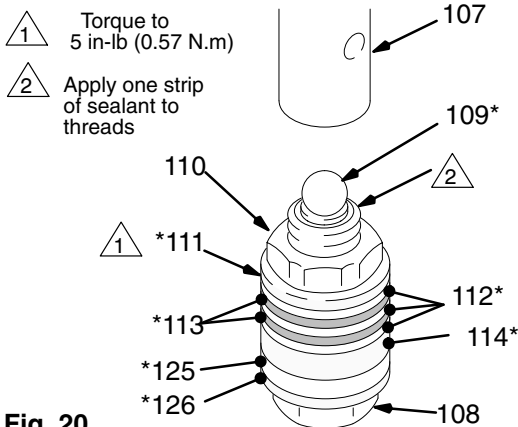

Fig. 20 03178
1. Check the outside of the piston rod (107) and the inside of the cylinder (115) for wear. Replace worn parts to ensure a good seal with the new packings.
2. Stack these parts onto the piston valve (108) one at a time: the backup washer (126*) and u-cup (125*), the female gland (114*), alternately three plastic (112*) with two leather packings (113*), and the male gland (111*). See Fig. 20.
5. Place the ball (109*) on the piston valve (108). See Fig. 20.